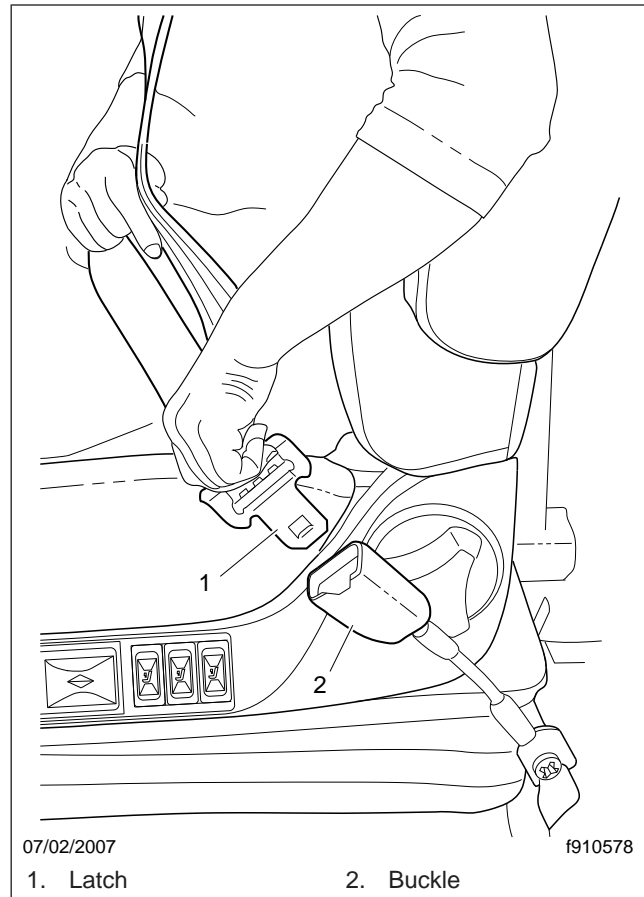

Fig. 6.10, Three-Point Seat Belt Operation
1. Slowly pull the latch end of the three-point seat belt out of the retractor and pull it across your lap (from outboard to inboard) far enough to engage the buckle. If the retractor locks too soon, allow the belt to retract slightly, then slowly pull it out again. See Fig. 6.10.
- Slowly pull the link end of the three-point seat belt out of the retractor and pull it across your lap (from outboard to inboard) far enough to engage the buckle. If the retractor locks too soon, allow the belt to retract slightly, then slowly pull it out again. See Fig. 6.10.